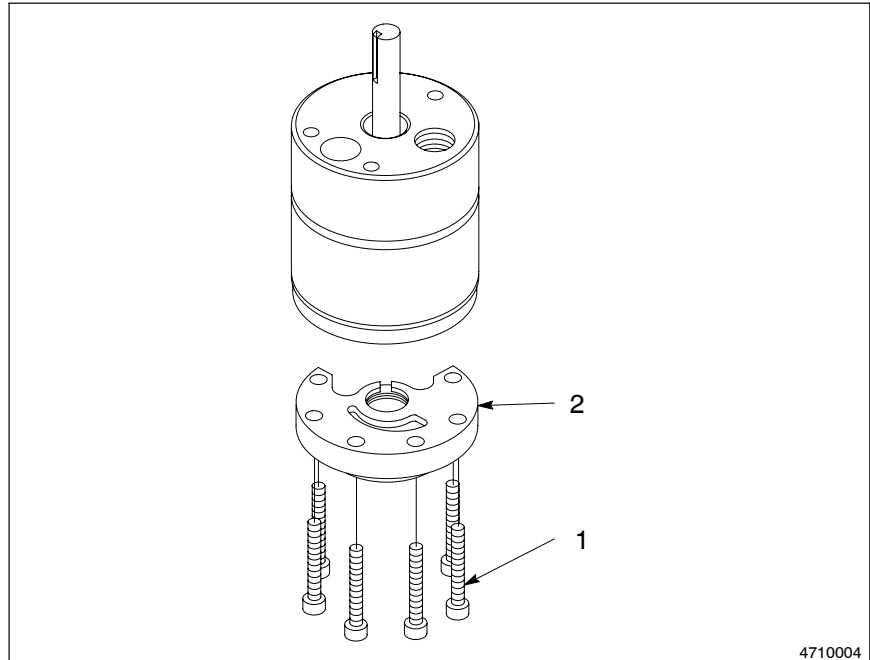

Fig. 7-24 Removing the Lower Pump Plate
7. See Figure 7-24. Remove the six socket-head screws (1) from the lower pump plate (2). Remove the lower pump plate from the pump body. Discard the bearing and seal inside the plate. Keep the plate for rebuild.
6. See Figure 7-24. Coat the threads of the six socket-head screws (1) with an anti-seize compound. Position the lower pump plate (2) against the gerotor retainer and secure with the screws. If you have a hardened pump, position the wear plate and then the lower pump plate against the gerotor retainer.